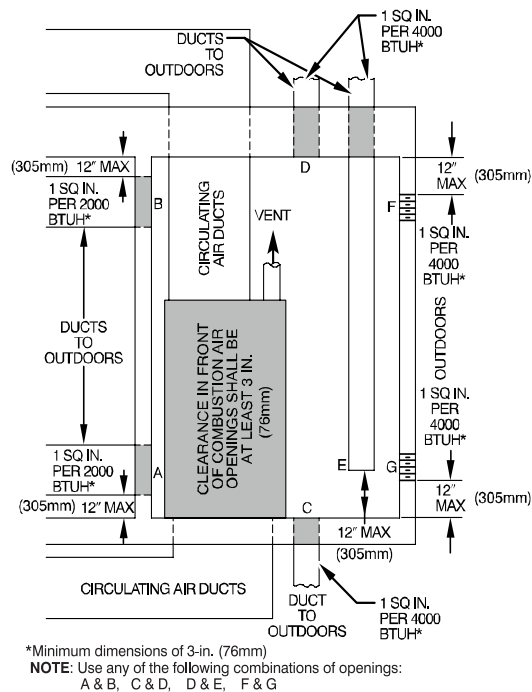

Fig. 8 – Air for Combustion, Ventilation, and Dilution for Outdoors L12F012
2. Provide TWO OUTDOOR OPENINGS, one inlet and one outlet combustion and ventilation air opening, to the outdoors (see Fig. 8).
- b. Size openings and ducts (see Fig. 8 and Table 4).
- c. TWO HORIZONTAL DUCTS require 1 sq. in. (645 sq. mm) of free area per 2,000 BTU_h (1,100 mm²/kW) of combined input for all gas appliances in the space (see Fig. 8 and Table 4).
- d. TWO OPENINGS OR VERTICAL DUCTS require 1 sq. in. (645 sq. mm) of free area per 4,000 BTU_h (550 mm²/kW) for combined input of all gas appliances in the space (see Fig. 8 and Table 4).
- a. 1 sq. in. (645 sq. mm) of free area per 3,000 BTU_h (734 mm²/kW) for combined input of all gas appliances in the space (see Fig. 8 and Table 4).